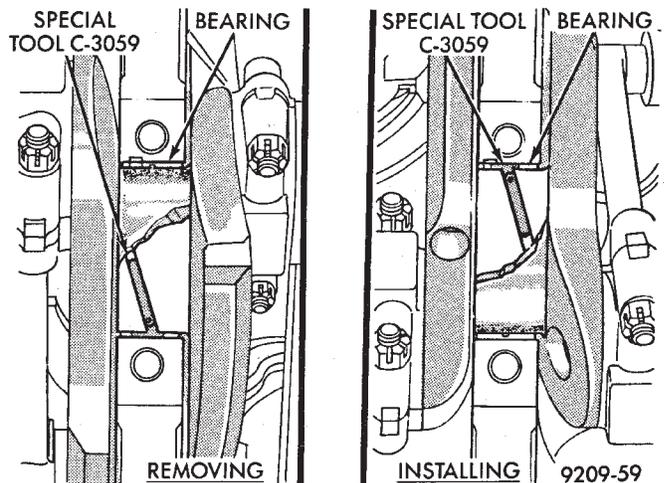

Fig. 3 Removing and Installing Upper Main Bearing With Special Tool C-3059
(1) Remove oil pan and identify bearing caps before removal.
(2) Remove bearing caps one at a time. Remove upper half of bearing by inserting Special Main Bearing Tool C-3059. (Fig. 3) into the oil hole of crankshaft.
(3) Slowly rotate crankshaft clockwise, forcing out upper half of bearing shell.
(1) Start bearing in place, and insert Main Bearing Tool C-3059 into oil hole of crankshaft (Fig. 3).
(2) Slowly rotate crankshaft counter-clockwise sliding the bearing into position. Remove Special Main Bearing Tool C-3059.
(3) Install each main cap and tighten bolts finger tight.
(4) Tighten number 1, 3 and 4 main cap bolts to 41 N•m + 1/4 Turn (30 ft. lbs.+ 1/4 Turn).
(5) Rotate the crankshaft until number 6 piston is at TDC.
(6) To ensure correct thrust bearing alignment the following procedure must be done: